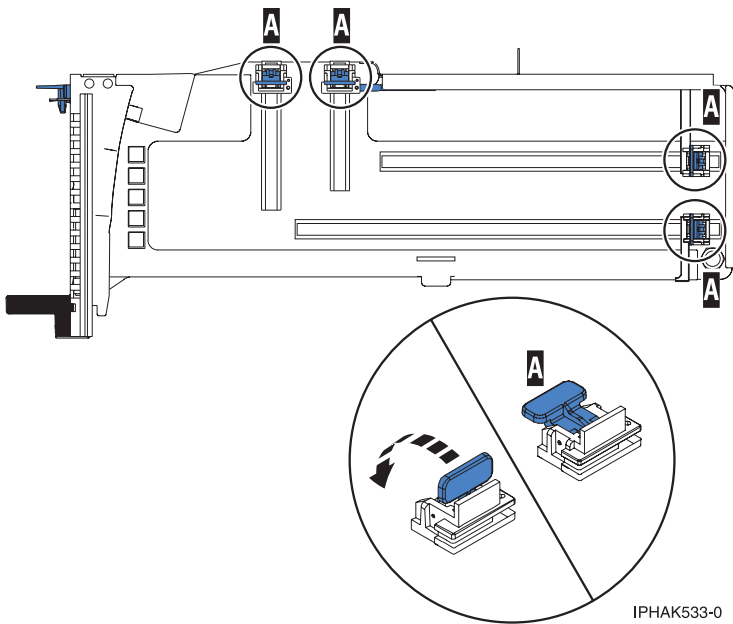

Figure 38. Adapter retainers in a cassette
- a. Ensure that all of the adapter retainers have been pushed out to the edges of the cassette to allow the placement of the adapter. See Figure 38.